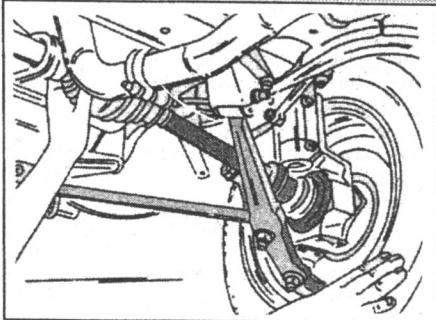

Fig. 1.7. — Removal of the R.H. drive shaft. Push the wheel towards the outside, until the tri-axe joint can be removed from the support bearing.
- The suspension arm is now gripped as shown in Fig. 1.7 and push the steering knuckle together with the wheel towards the outside. This will free the inner tri-axe joint from the shaft. Take off the aluminium bearing assembly. and "deposit" the drive shaft onto the lower suspension arm.